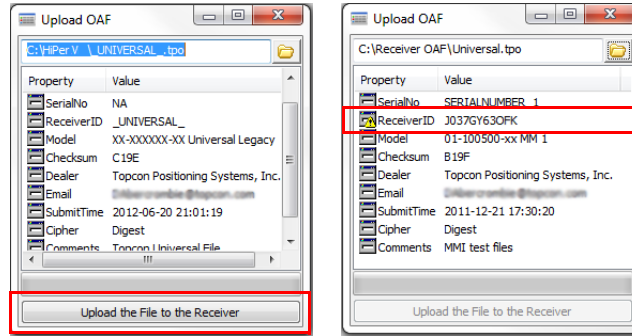

Figure 21: OAF Compatibility Check
- Press **Upload the File to the Receiver** (Figure 21) to start loading the file.